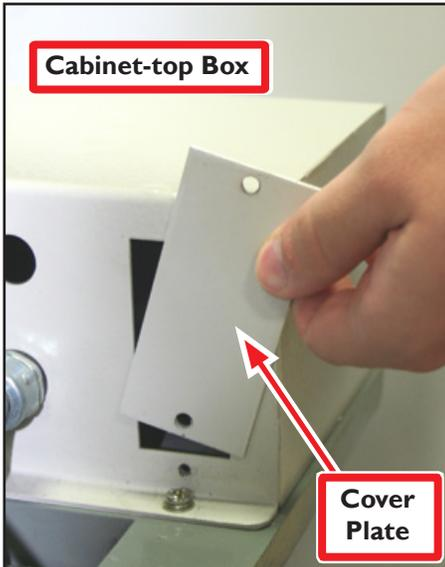
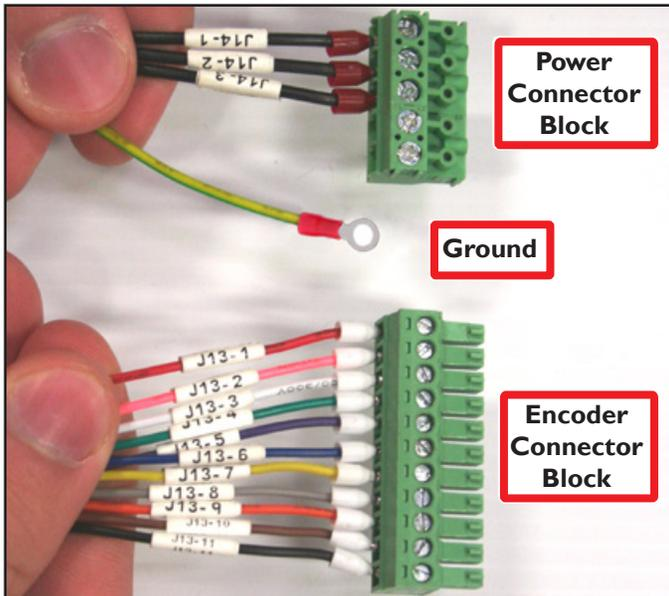

Figure 11
Figure 15
10. To begin routing the Power and Encoder ends of the harness into the electrical cabinet, remove cover plate from the Cabinet-top Box (see **Figure 11**); set the two mounting screws aside.
NOTE: Lathe serial numbers 10025 and lower do not have a removable cover plate (see **Figure 11**). To allow Power and Encoder wire access to the electrical cabinet, lathe owners with these serial numbers must carefully remove the cover of the Cabinet-top Box and drill two 5/8" holes in the side of the box. Be careful not to damage wires when drilling or allow metal shavings to enter electrical cabinet. Once holes are drilled, remove connector blocks and conduit fitting nuts from harness; discard plate provided with kit. Secure conduit fitting nuts inside Cabinet-top Box. Reconnect connector blocks as shown in **Figure 15**.
14. Check to ensure the Encoder Connector Block wires are in sequential order (see **Figure 15**).